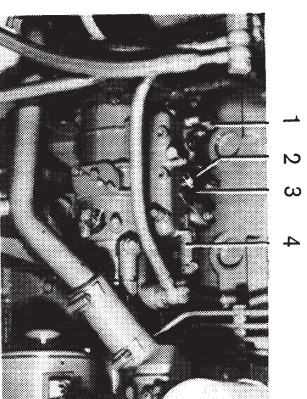

Fig. 28. 4-cyl. engine
2. Loosen the lock nut, then turn the screw (2; Fig. 28 or 29) so that the correct idling speed is obtained.
3. Re-tighten the lock nut while holding the nut (2) firm.
Check that the control lever of the controls is in neutral position and that the fuel injection pump lever (3, Fig. 28 or 29) is in the idling position. Release the spring "disc" from the lever. Screw on a lock nut and then the "disc" with the spring end in front so far that a tensioning of the spring by 4–5 mm (0.16–0.20") is obtained when the "disc" is refitted in the lever. Tighten the lock nut. Move the control lever fully "Forward" and check that there is optimum operation on the fuel injection pump.
Check that the stop control lever (1, Fig. 28 or 29) lies against its stop on the fuel injection pump and that the control is pushed in. Then screw securely the control wire in the "dice" on the lever.